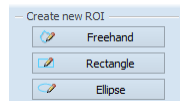

Figure 368 – Quantitative analysis drawing tools in tool tab
- Select an appropriate tool for the ROI definition in the **Create new ROI** section of the tool (see Figure 368).